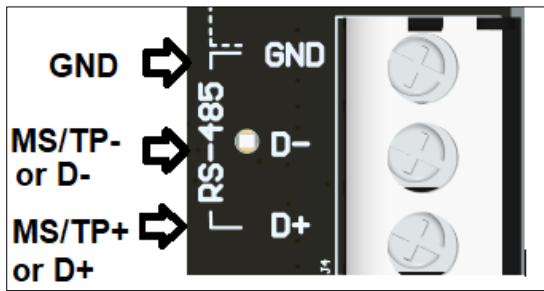

Figure 3. RS-485 connections
9. RS-485/MODBUS serial connections: Connect the Bridge 485 screw terminal D+ to MS/TP+ on the devices that utilize the MODBUS RTU protocol over a RS485 serial connection, D- to MS/TP- and GND to GND; or connect to D+ to D+, D- to D- and GND to GND on any other RS-485 serially controlled devices. See Figure 3.
10. **Contact Synapse for Support-** (877) 982-7888